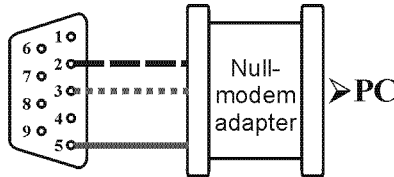

Figure 5: Straight Cable RS-232 Connection with a Null Modem Adapter
**Method B** (Figure 5)—Connect the RS-232 9-pin D-sub port on the unit via a straight (flat) cable to the null-modem adapter, and connect the null-modem adapter to the RS-232 9-pin D-sub port on the PC. The straight cable usually